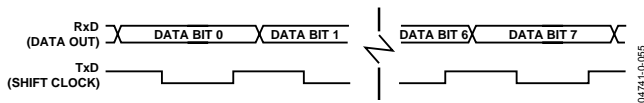

Figure 76. 8-Bit Shift Register Mode
Reception is initiated when the receive enable bit (REN) is 1 and the receive interrupt bit (RI) is 0. When RI is cleared, the data is clocked into the Rx/D line, and the clock pulses are output from the Tx/D line as shown in Figure 76.